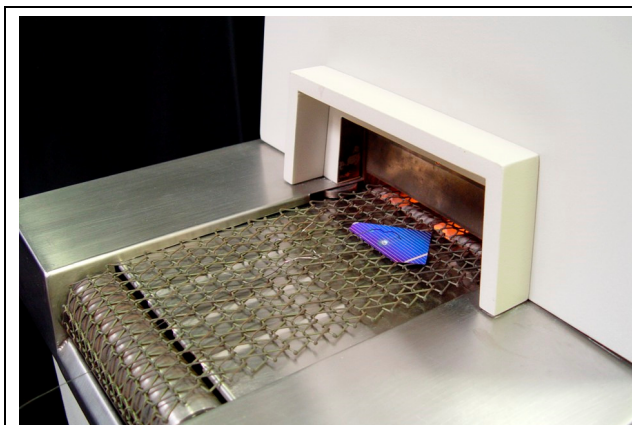

Figure 9-9 Silicon Wafer Entering Furnace
- E. Place sample on belt. As part passes furnace entrance (Figure 9-9), start data logger.